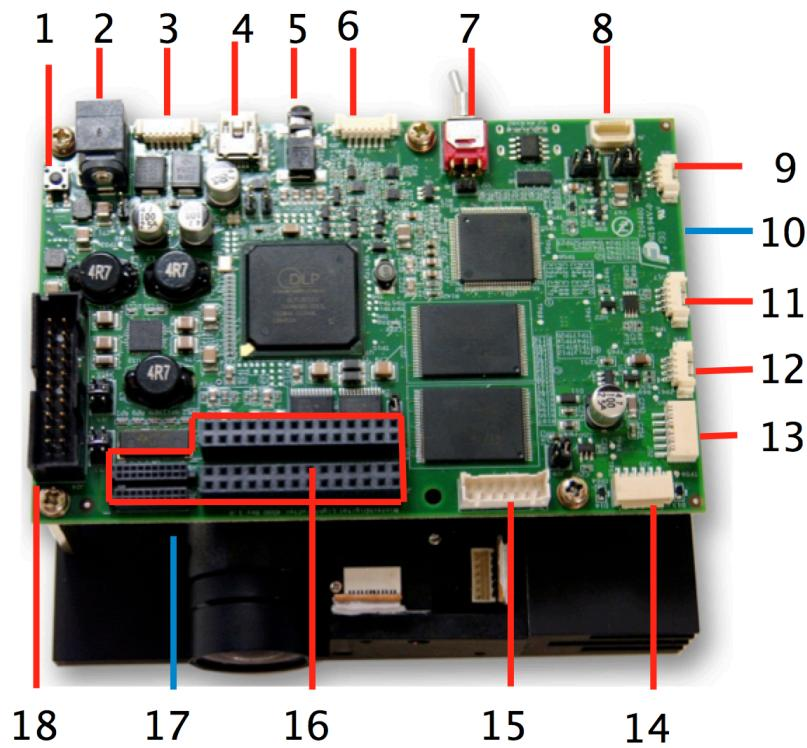
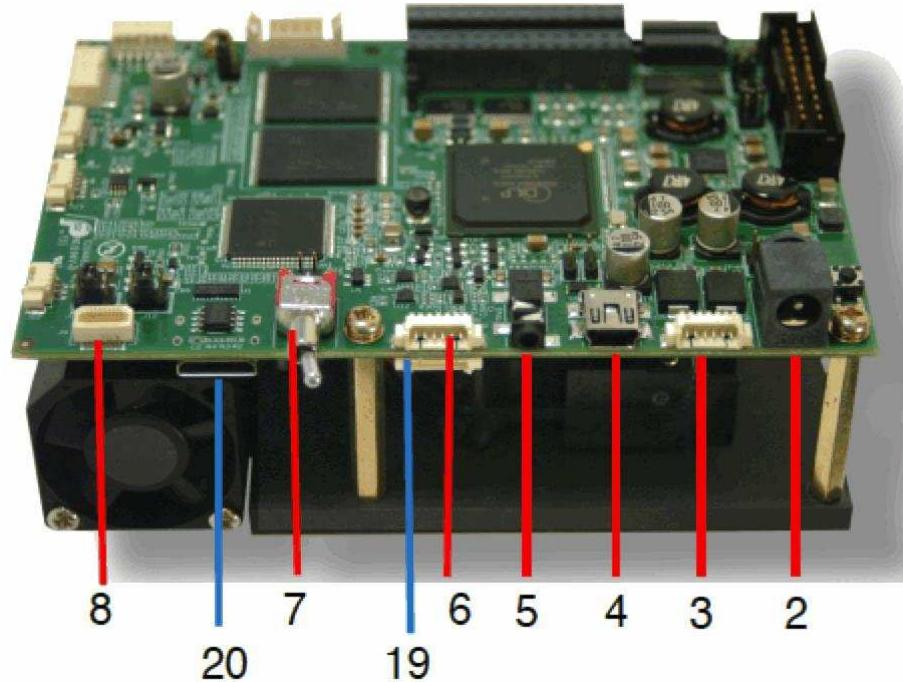

Figure 1-7. DLP LightCrafter 4500 Connectors (Top View)
Figure 1-8. DLP LightCrafter 4500 Connectors (Back-Side View)
Figure 1-7 and Figure 1-8 depict the switches and connectors with their respective locations. The following list corresponds to the callouts on these figures. The figure does not include cables, or a power supply.
1. Connect a 12-V DC power supply to the power supply connector (connector 2 in Figure 1-8).
3. To display video, connect a DVI source to the mini-HDMI connector (connector 20 in Figure 1-8).
5. After installing the software on the computer, connect the PC to the DLP LightCrafter 4500 using a USB to mini-USB cable (connector 4 in Figure 1-8). The first time the cable is connected on a PC, the DLP LightCrafter 4500 emulates a USB composite device with human-interface device (HID) class. No drivers are required because these drivers are natively handled by all operating systems.